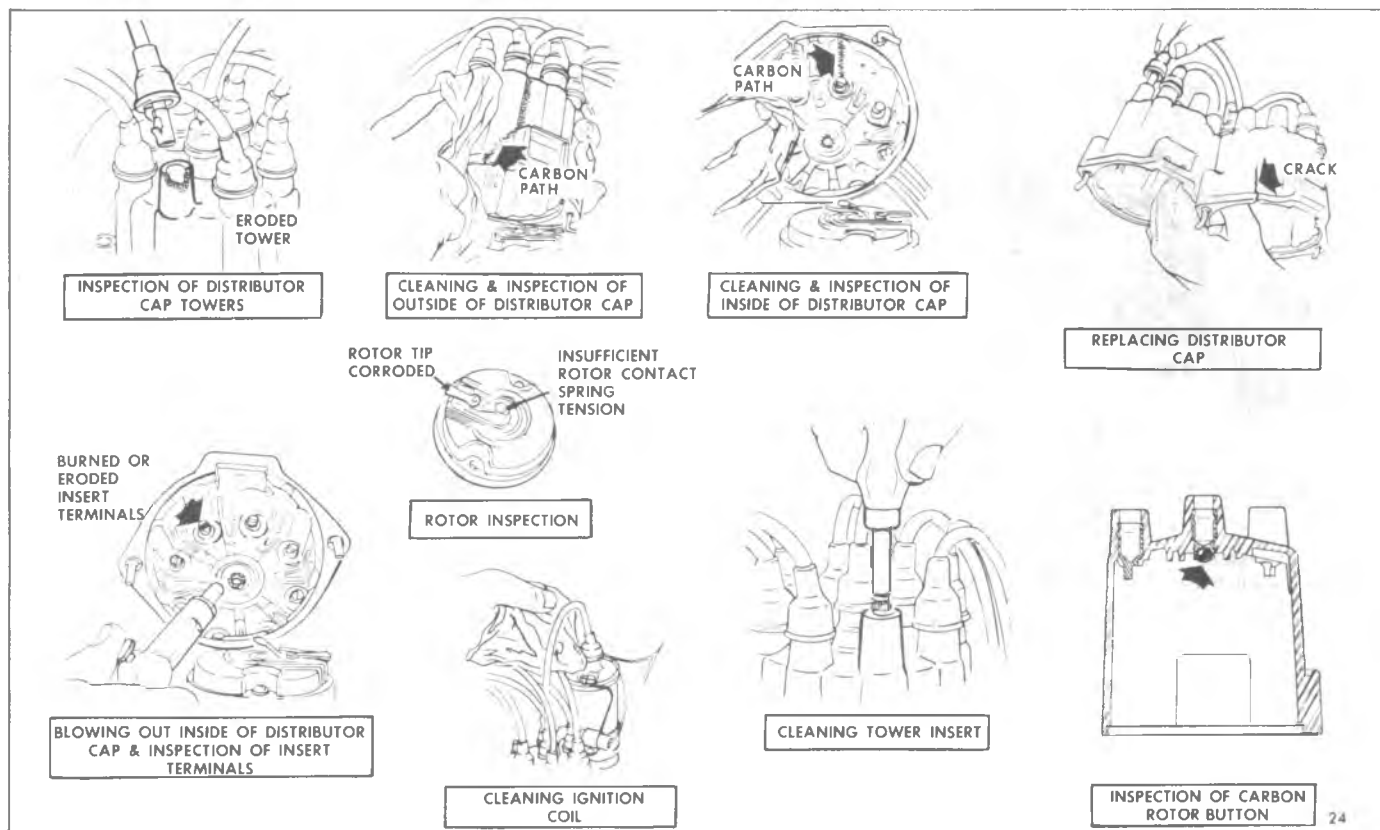

Fig. 3—Cleaning and Inspecting Distributor Cap, Rotor & Coil
1. Remove distributor cap, clean cap and inspect for cracks, carbon tracks and burned or corroded terminals. Replace cap where necessary (fig. 3).